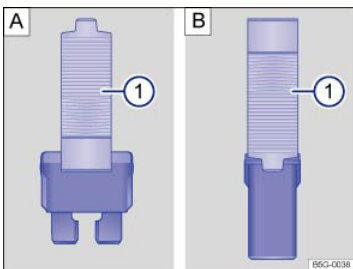

Fig. 165 Removing or installing a blade fuse with the plastic tweezers: : Blade fuse. : JCASE® fuse.
- Depending on the type of fuse, slide the tweezers ⇒ *Fig. 165 A* ① or ⇒ *Fig. 165 B* ① onto the fuse from the side.
- If the fuse is blown, replace the fuse with a new fuse of the *same* amperage (same color and same imprint) and *same* size ⇒ ① .